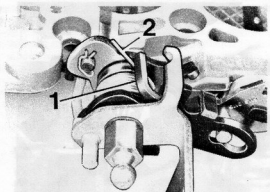

Fig. 13.29 Primary barrel flap linkage (Sec 8)
- 13 Ensure that the end of the primary barrel flap return spring engages on the connecting link as shown in Fig. 13.29, and check that the throttle flap and linkage operate freely.